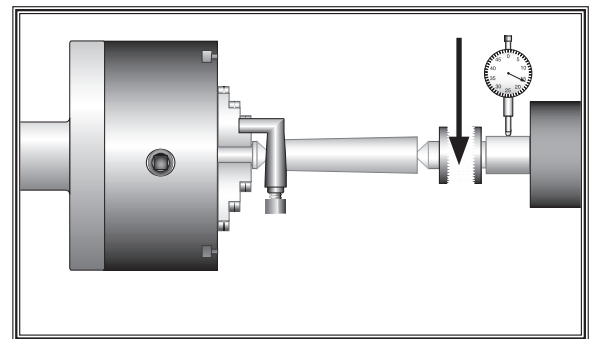

Figure 18. Tailstock adjustment option #1.
- If it is thicker at the tailstock end, move the tailstock toward you half of the diameter (**Figures 18 & 20**).